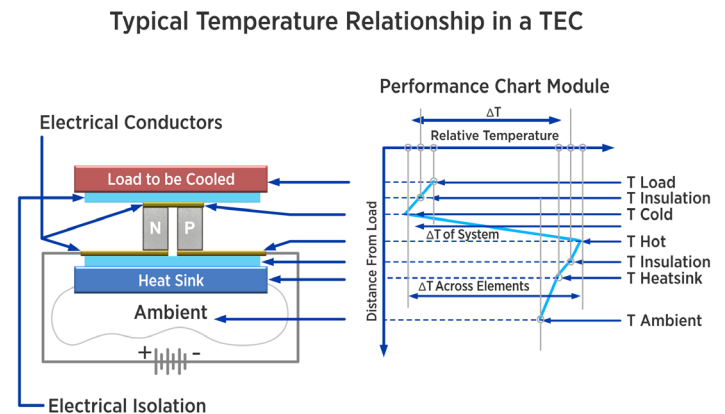

Figure 4: Typical Temperature Relationship in a TEC
3. These two temperatures (T_c & T_h) and the difference between them (ΔT) are very important parameters and therefore must be accurately determined if the design is to operate as desired. Figure 4 represents a typical temperature profile across a thermoelectric system.